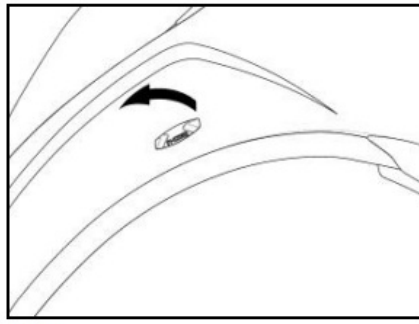

Fig. 2
- Remove the small N-Com cap positioned on the left side of the helmet. To make the operation easier, we recommend pushing the cap from inside the helmet (Fig. 2).